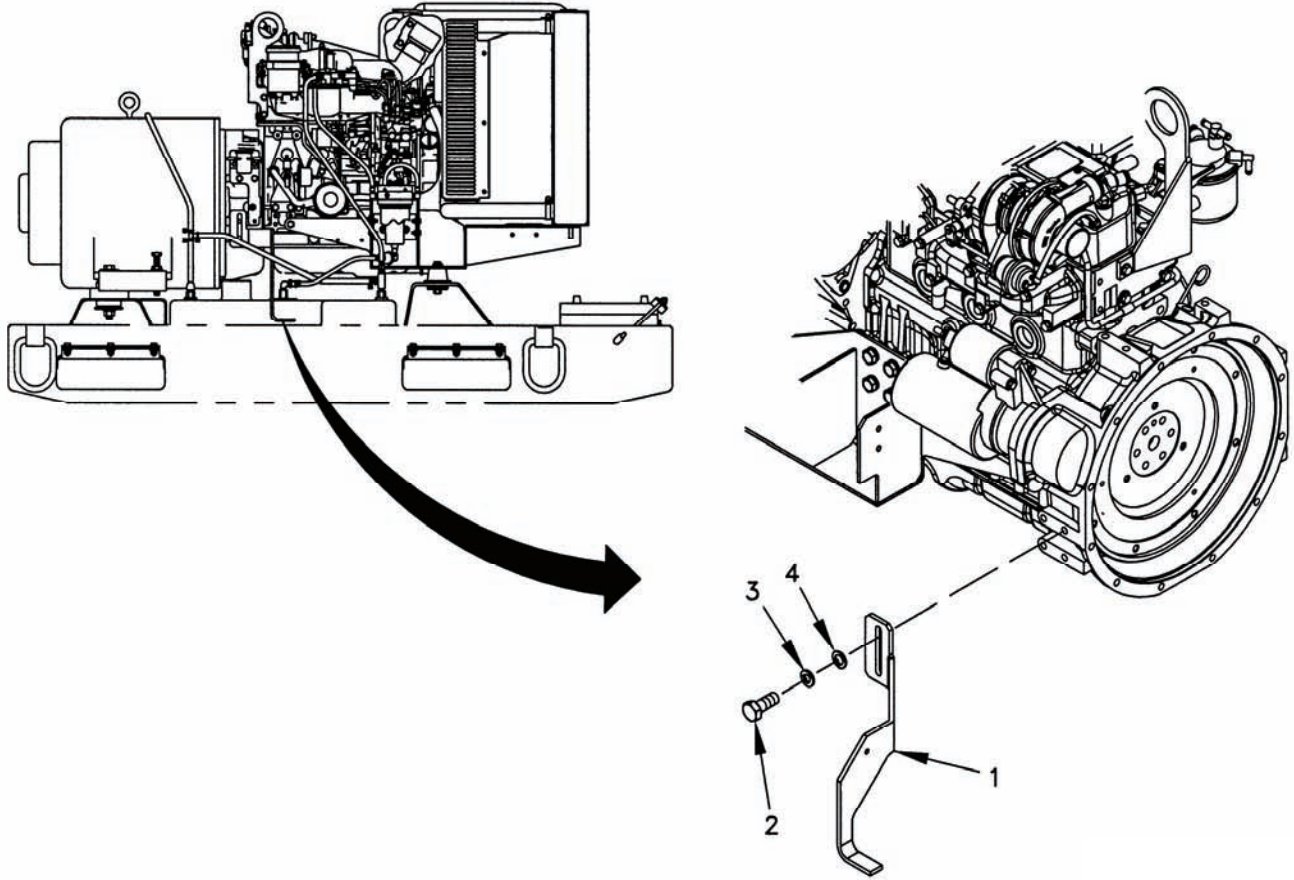

Figure 5-28. Rear Engine Supports.
- n. Install two rear engine supports (1, Figure 5-28) (Item 105, Table 5-1) (one on each side of engine) with four screws (2) (Item 108, Table 5-1), lock washers (3) (Item 109, Table 5-1), and flat washers (4) (Item 110, Table 5-1).